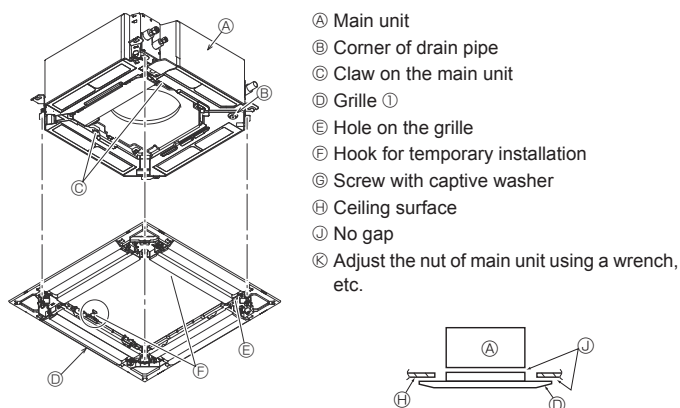

Fig. 7-6
7.4.2. Temporary installation of the grille (Fig. 7-6)
- By tightening the pre-installed screws, fix the grille onto the main unit. (Fig. 7-6)
Make sure there is no gap between the main unit and the grille or between the grille and the ceiling surface. (Fig. 7-6)